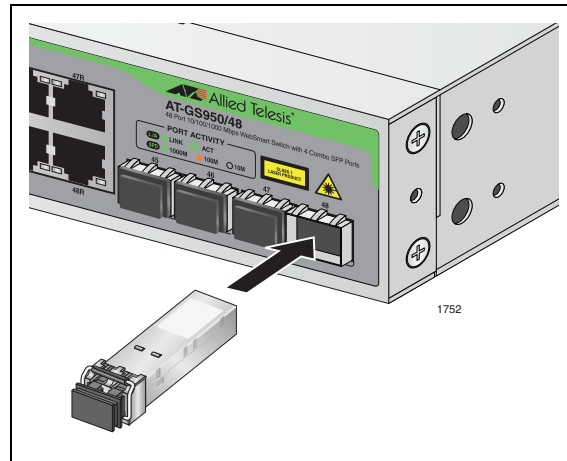

Figure 12. Inserting the SFP Transceiver
4. Slide the SFP transceiver into an SFP slot on the switch, as shown in Figure 12.